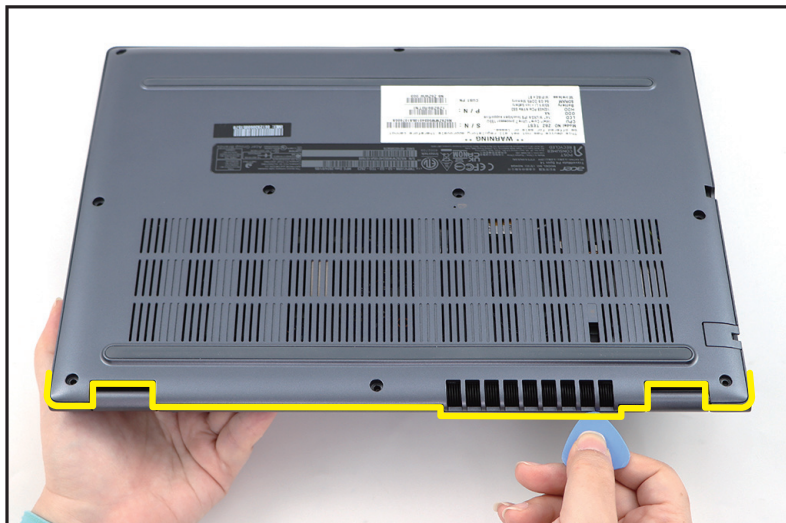

Figure 1-5. Base Cover Removal
2. Carefully pry up the base cover starting from the upper side closer to the hinge caps to release the latches. Then continue releasing the remaining latches on the left, right, and bottom sides (Figure 1-5).